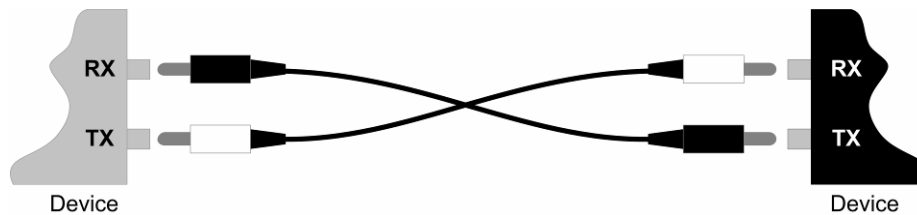

Figure 14: Fiber Cable Connections
3.	Connect the fiber cable as shown in Figure 14.